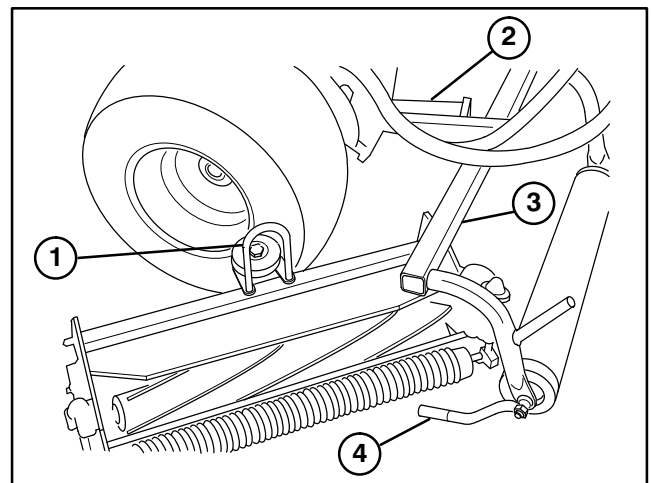

Figure 4
2. Slide the cutting units under the pull frames and position the hoop on the top of cutting units over the lift arms (Fig. 4).